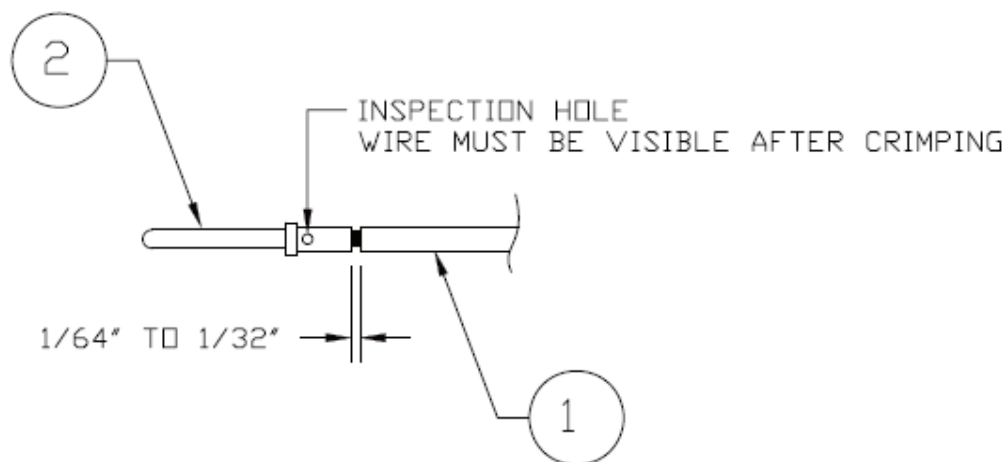

Figure B-1 Insulation/Contact Clearance
For the following steps please refer to indicated item numbers in Figures B-1 and B-2.
1. Strip back approximately 0.17 inches of insulation from both the positive and negative thermocouple leads (item 1) and crimp a pin (item 2) to each lead. It is the responsibility of the installer to determine the proper length of insulation to be removed. Wire must be visible in the inspection hole after crimping and the insulation must be $1/64$ – $1/32$ inches from the end of the contact as shown in Figure B-1.
Table B-4 Parts supplied for a Shield Block Installation (Figure B-1)
Table B-5 Parts not supplied for a Shield Block Installation (Figure B-1)